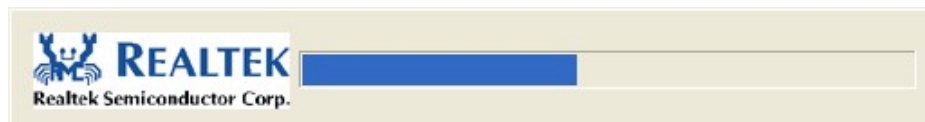

Figure 6-21: Audio Driver Installation
Step 6: The driver installation begins. See **Figure 6-21**.